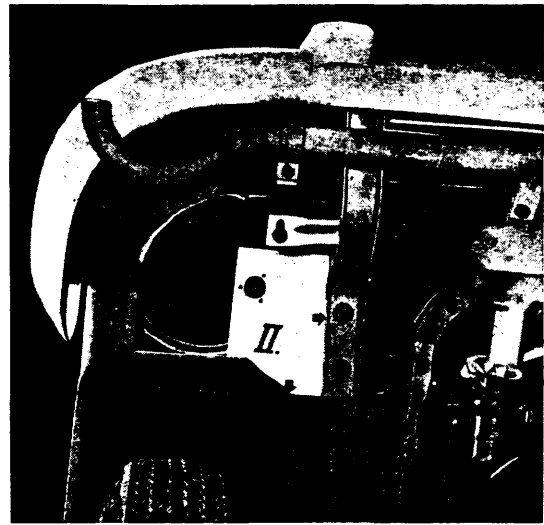

Fig. 4
- 5 - Lift rear end of vehicle. Using template II mark and drill the hole for the intake pipe and the holes for the pipe bracket, from underneath (Fig. 4). Clean up edges of holes.